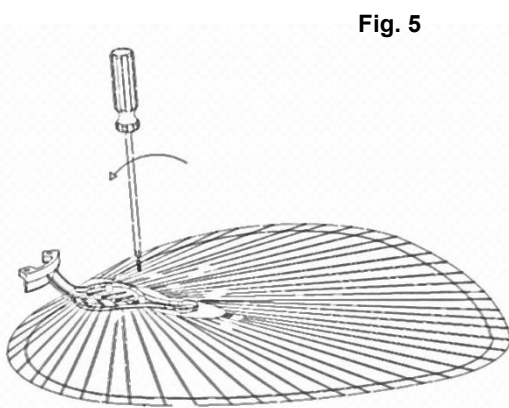

Fig. 5
2. Assemble the blades & holders using the screw set. (Fig. 5)